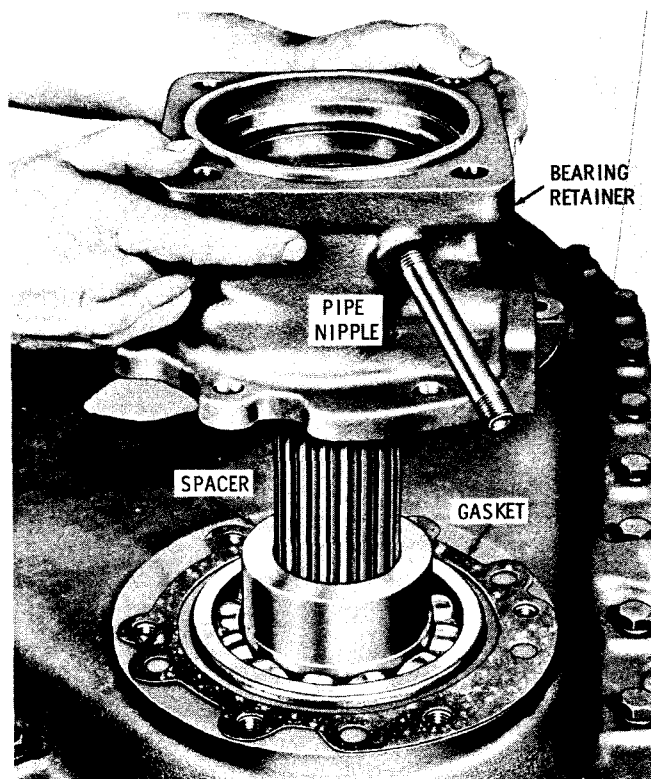

Fig. 7-124. Installing rear bearing retainer
(14) On models which have a rear output or rear-mounted brake, install the gasket, spacer and bearing retainer assembly (fig. 7-124). Secure